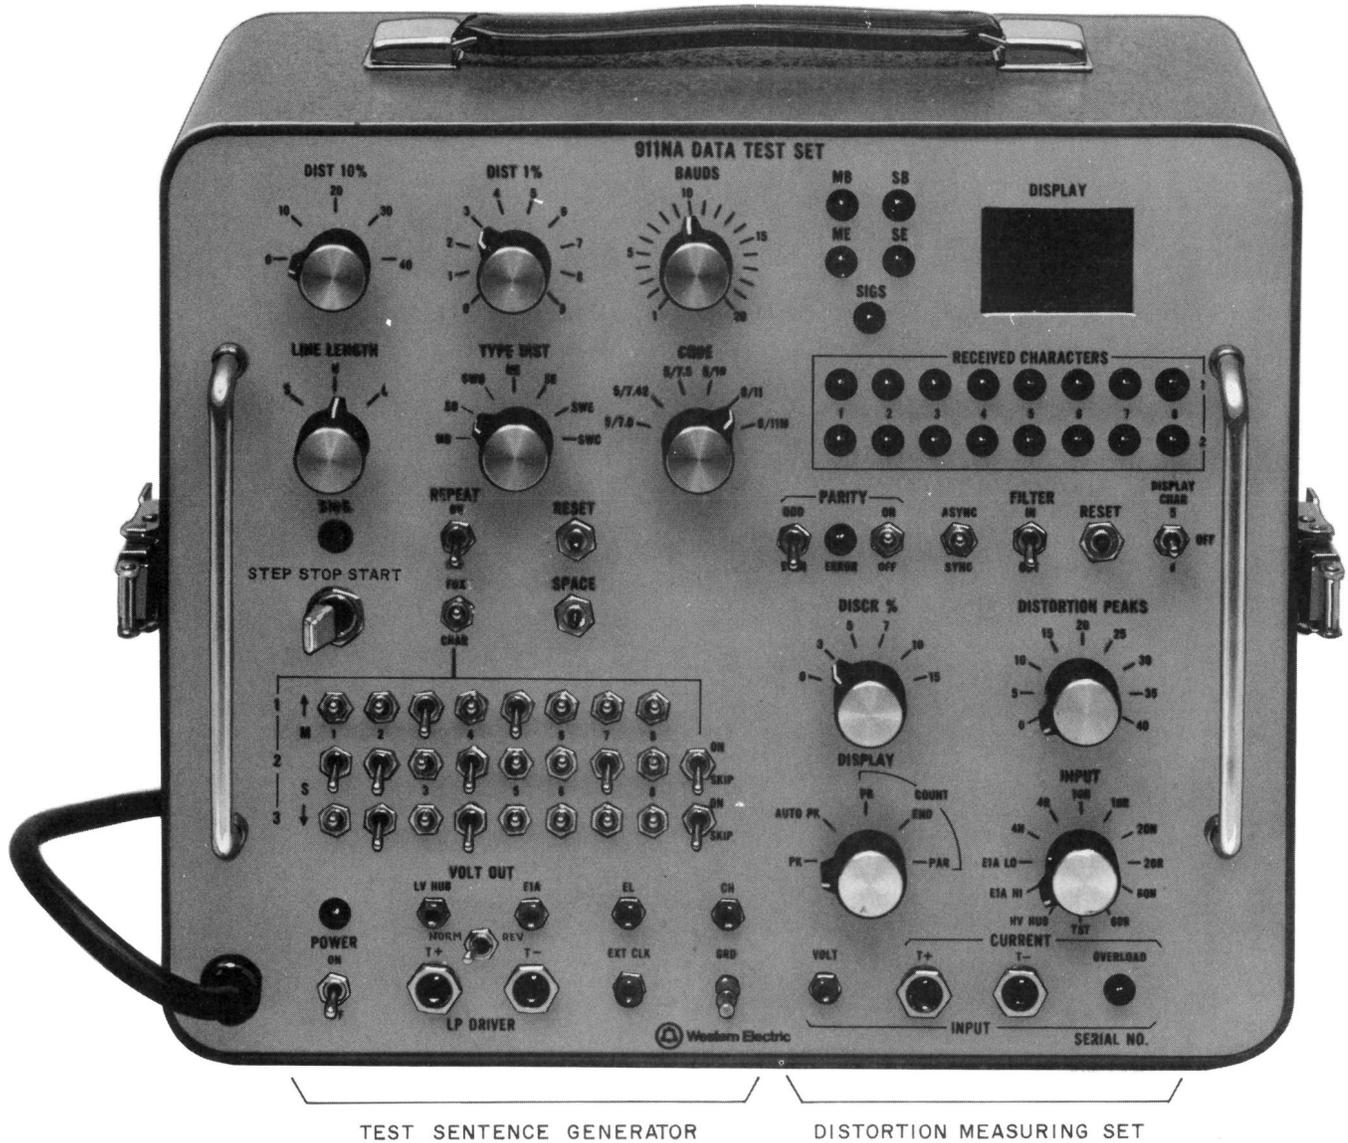

Fig. 7—911NA DTS Front Panel
**2.06** The front panel of the DTS is shown in Fig. 7. The left-hand side comprises the TSG, while the right-hand side is used as a DMS. For self-testing, the TSG is internally connected to the DMS when the INPUT switch is set to TST.